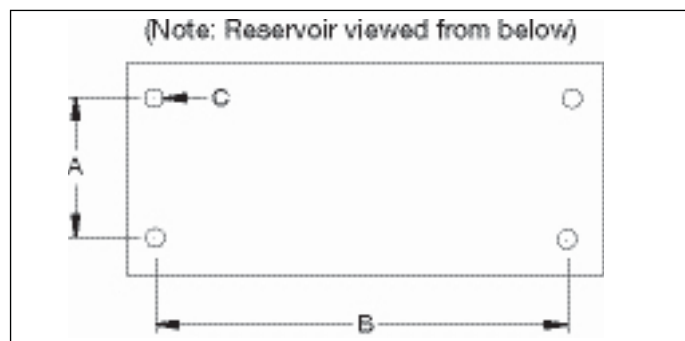

Figure 3, Mounting Dimensions
4.2 Pump Mounting (See Figure 3)
Refer to Figure 3 for mounting dimensions to secure the pump to a fixed surface.